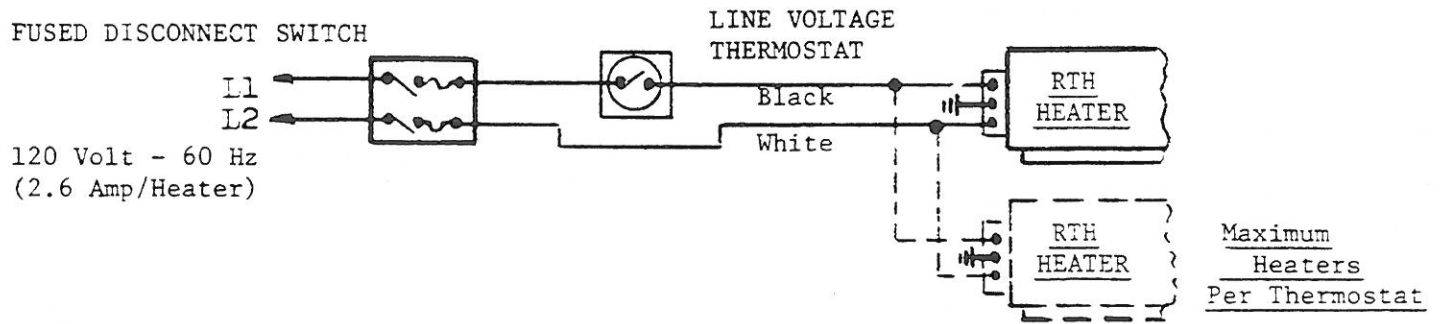

Fig. 3 – "Field" Wiring of Line Voltage Thermostat
1. Heaters are normally controlled by thermostats (See Fig. 3 & 3a). Line voltage thermostats are wired directly: the recommended 24 volt thermostats use a relay per Figure 4 & 4a. Heaters must be grounded in accordance with the CSA standard C22.1 – Canadian Electrical Code, Part 1 and/or local codes. Heaters can also be controlled with a manual line voltage switch or timer switch in place of the thermostat.
- 2.) FOR LOW VOLTAGE THERMOSTAT AND/OR PARALLEL BURNER OPERATION. SEE "FIELD" WIRING - FIG. 3,3a ON PAGE 5.
- 2.) FOR LOW VOLTAGE THERMOSTAT AND/OR PARALLEL BURNER OPERATION. SEE "FIELD" WIRING - FIG. 3, 3a ON PAGE 5.